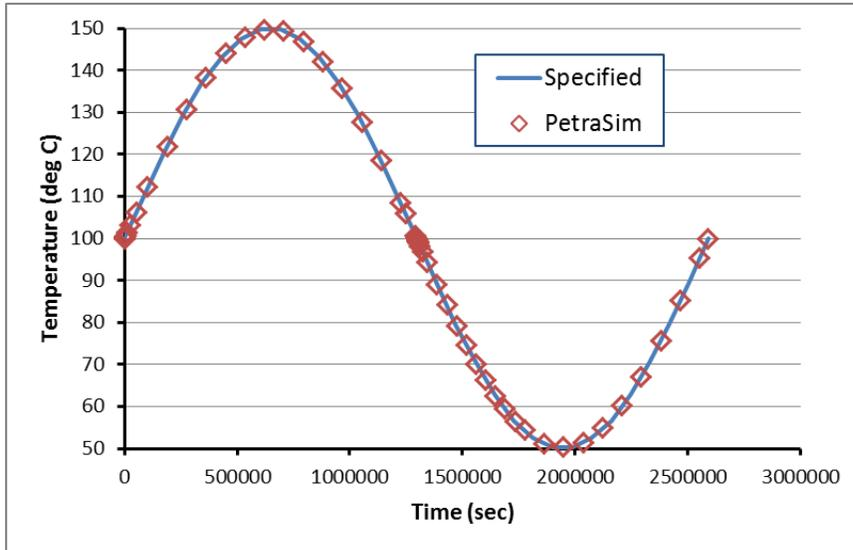

Figure 3: Comparison of calculated and desired boundary condition cell temperatures
5. You can then import the data and compare the calculated boundary condition temperatures to the desired values, as shown in Figure 3.